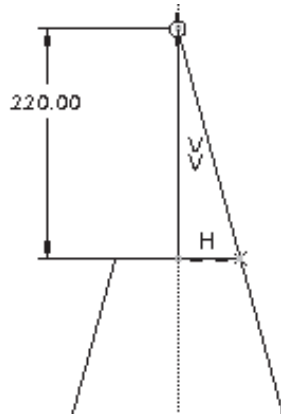

Figure 8-104 Sketch for the tip of the pencil
- Create the revolve feature that will create the tip of the pencil, refer to Figures 8-104 and 8-105.
3. After entering the sketcher environment, draw the sketch, apply constraints, and dimension it, as shown in Figure 8-104.